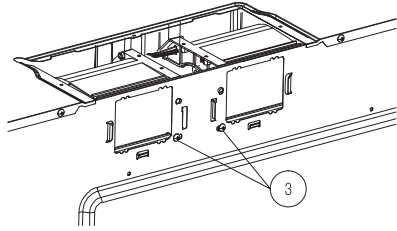

Figure 11
- Place the blower unit into the opening and secure it to the oven with the screws (3) from step 2. See Figure 11.